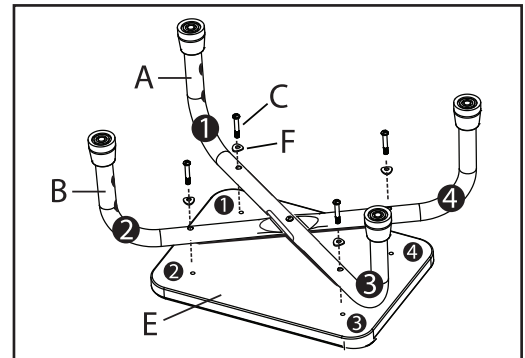

Fig. 2
2. Place the Foot Stool Base (E) upside down on a flat surface with the screw holes facing up. With the assembled legs upside down, align the holes in the legs with the threaded sockets in the Foot Stool Base (E) next to the corresponding numbers, as shown in Fig. 2. Insert a 1-3/8" Leg Assembly Screw (C) through a Washer (F) and place into each hole of the leg tubing.